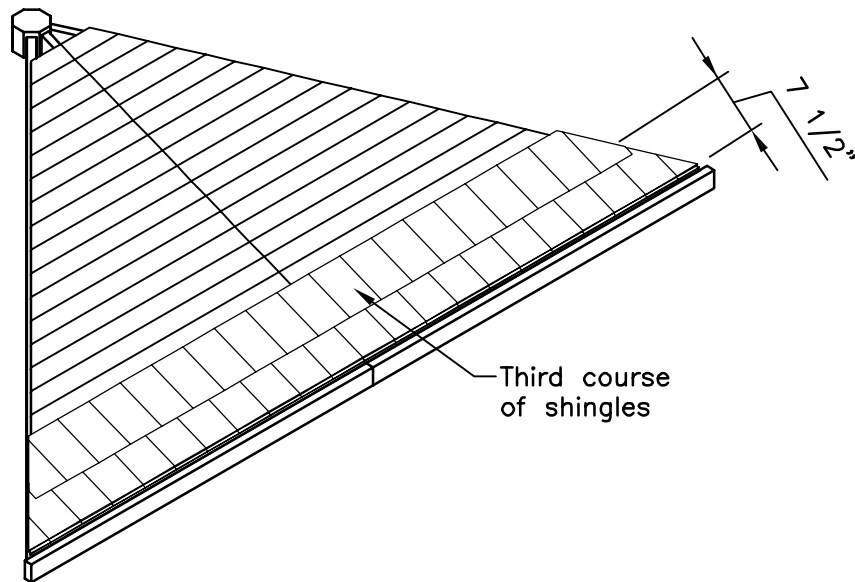

FIGURE S29
- When applying additional courses of shingles leave approximately $7\frac{1}{2}$ inches to weather. See Figure S29 for proper overlap.